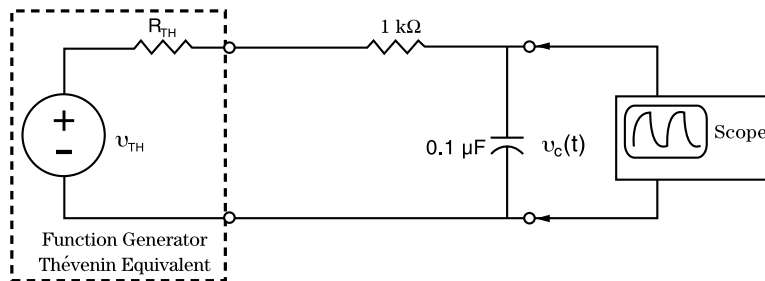
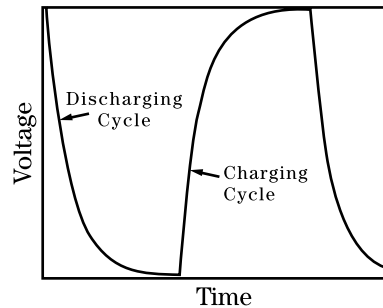

Figure 1
Figure 2
Assume the output resistance of the function generator (R_{TH} in Fig. 1) is 50 Ω . Do a CCA run on the circuit of Fig. 1. Use the transient analysis option and an 8 V_{pp} square wave source with no DC offset. You will need to determine an appropriate source frequency so that the voltage across the capacitor reaches its final value before the source changes to the next voltage level. The results of the CCA should look similar to Fig. 2. Print out the CCA results and tape them into your lab journal.
The equation describing the output $v_c(t)$ of the circuit of Fig. 1 is of the form:
Assume the function generator produces a square wave with a peak-to-peak voltage of 8 V, no DC offset ($V_{avg} = 0$ V), and a period T_o greater than $10T_c$. Under these circumstances the initial condition IC and the final condition FC will be equal to the maximum and minimum voltages of the source. In this case, the assignment of +4 V or -4 V to the initial condition IC depends on whether the *charging cycle* or the *discharging cycle* are being observed, as shown in Fig. 2. For the discharging cycle the initial condition IC =
Determine the output resistance of your function generator, R_{TH} . This value is usually printed on a label somewhere on the device. The Thévenin equivalent model of the function generator is shown in Fig. 1. Build the circuit of Fig. 1 on a protoboard.
- a. Set the oscilloscope to display the waveform $v_c(t)$ produced by this circuit. The display should be similar to Fig. 2. A stable display on the scope is best achieved by triggering the scope with the sync output from the function generator. To do this, connect the sync output from the function generator to the EXT trigger input on the scope. Set the trigger sub-system to use the external signal for triggering.
Two different methods are suggested for computing the time constant of the circuit of Fig. 1.